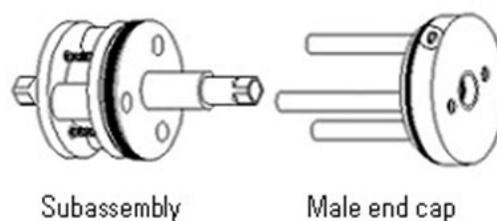

Figure D-7. Disassembly Steps 7 through 8
7. Pull the subassembly off the male end cap as indicated in Figure D-7.